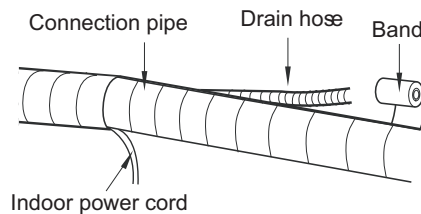

Fig. 15
- (2) Reserve a certain length of drain hose and power cord for installation when binding them. When binding to a certain degree, separate the indoor power and then separate the drain hose.(As show in Fig.15)
- (3) Bind them evenly.
- (4) The liquid pipe and gas pipe should be bound separately at the end.